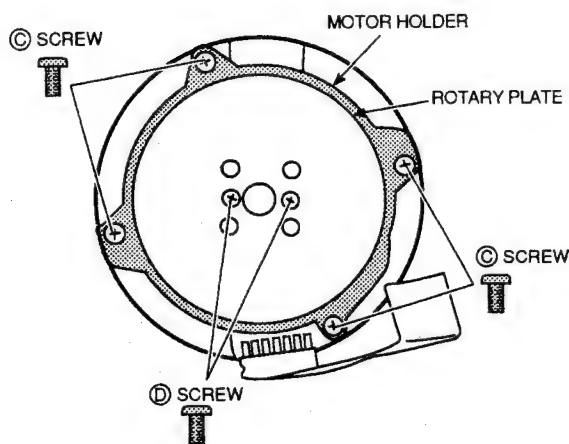

Fig. 3-17
4. Remove the four (C) screws on the MOTOR HOLDER as shown in Fig. 3-17.